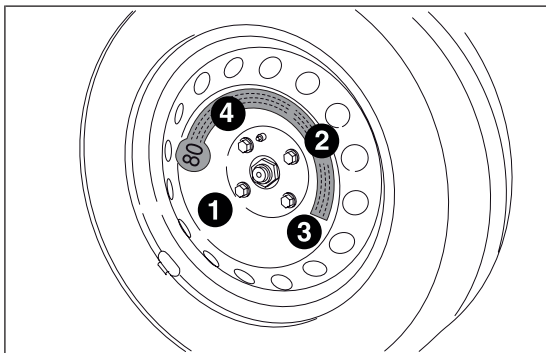

fig. 120
- use the wrench A provided to fully tighten the bolts in a criss-cross fashion as per the order illustrated in fig. 120;